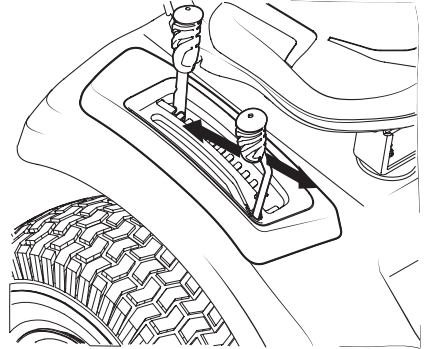

Figure 28
2. Push the PTO (blade engage) lever forward into the engaged (ON) position (Figure 28).